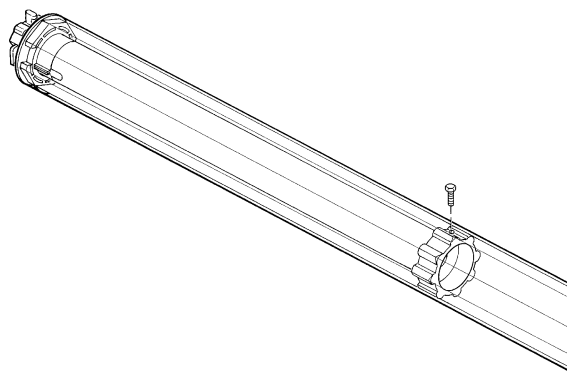

Fig. 5
- Secure drive wheel [D] to the roller tube by means of an M4x10 screw in such a way as to prevent axial movement of the motor (figure 5). Ensure that the screw is perfectly centred with respect to drive wheel [D] and, before drilling the hole for the screw, measure the position at which the wheel will be located once the motor has been inserted in the roller tube.